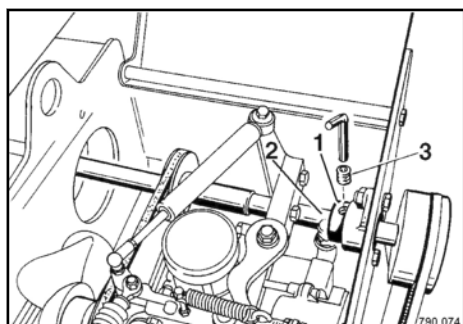

Fig. 56
Clean the sliding surface for clamping ring (1) ↪ Fig. 56 on drive shaft (2).